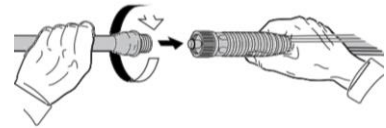

Fig. 10c
- Insert the wand into the gun as shown in Fig. 10c.